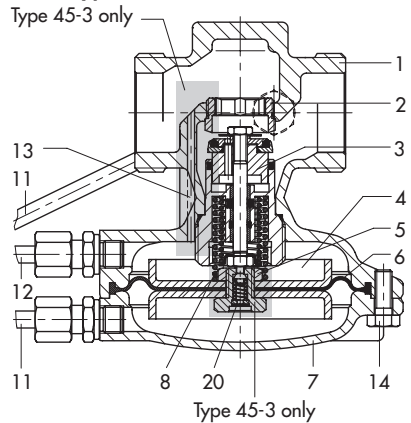

Fig. 1 · Sectional drawings
Adapt a control line with a 6 mm pipe diameter to the installation conditions on site. Then attach it to the valve and to the pipeline according to the applicable installation schematics (Fig. 1), making sure the control line is free of any dirt.
To reassemble the regulator, proceed in reverse order. Observe the tightening torques specified in Fig. 1.
2. For Type 45-1, unscrew the control line (11).
3. Loosen the screws (14). Remove the lower diaphragm case (7) including the operating diaphragm (6) and diaphragm plates (4) from the body. If applicable, remove the set point spring (8) from the valve body.
4. Unthread the nut (5). Remove the diaphragm plate. Replace the diaphragm. To reassemble the regulator, proceed in reverse order. Observe the tightening torques specified in Fig. 1.
2. Completely release the tension from the spring(s) by turning the set point adjuster (9) counterclockwise.
3. For Type 45-2, unscrew the control line (11).
4. Loosen the screws (14). Take off the lower diaphragm case including all actuator parts as well as the diaphragm and diaphragm plate.
5. Unthread the nut (5). Remove the diaphragm plate. Then replace the diaphragm. To reassemble, proceed in reverse order. Observe the tightening torques specified in Fig. 1.